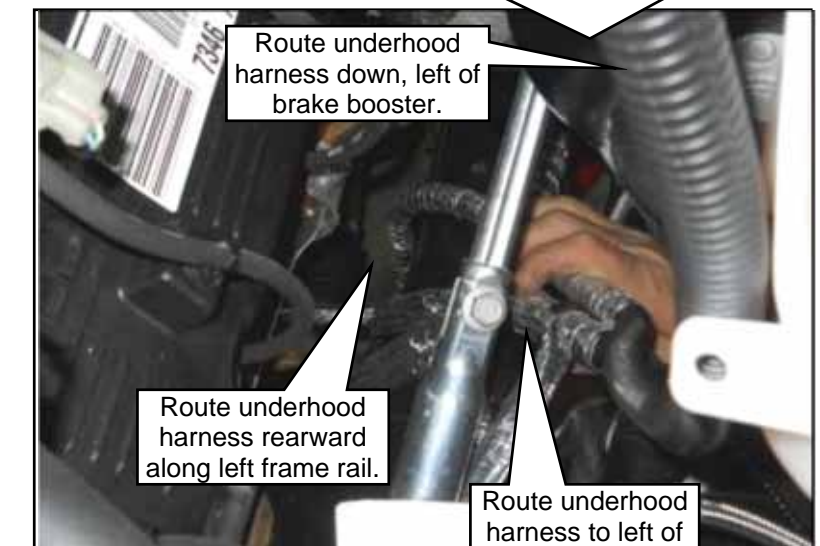

Figure 16.4
11. Route the lower end of the underhood harness with the 6-pin and 2-pin connectors down along the wheel well to the left of the steering column and back toward the left side frame rail. Following the Ford chassis harness. **NOTE:** Make sure to secure the ROUSH CleanTech underhood harness to keep it away from the steering column and other heated or moving components. **Figure 16.4.**